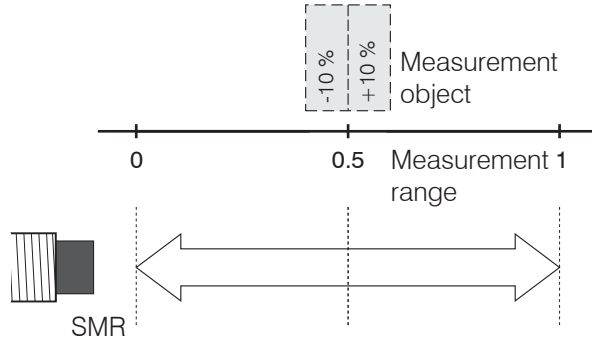

Fig. 35 Positional tolerance of the measurement object in the center of the measurement range.
- ➡ Press the key ↵ to edit the value for the center of the measurement range (MidM.Range) due to the positional tolerance, see Fig. 35.